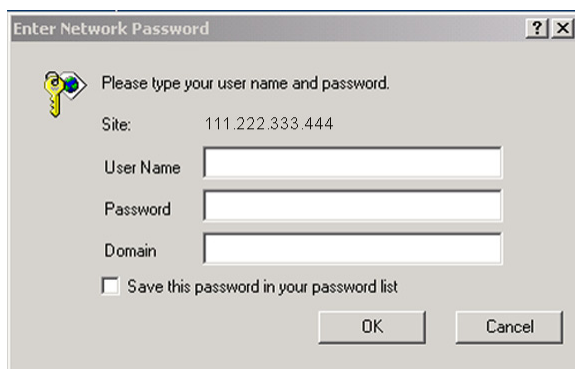

Figure 21: SMA login window
2. Click the **hp OpenView storage management appliance** button. The SMA login window opens (Figure 21).